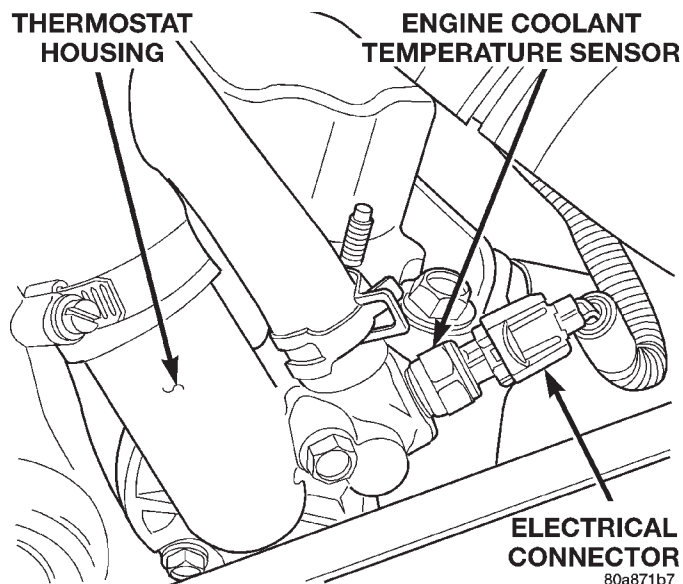

Fig. 33 Engine Coolant Temperature Sensor—Typical
(1) Disconnect wire harness connector from coolant temperature sensor (Fig. 33).